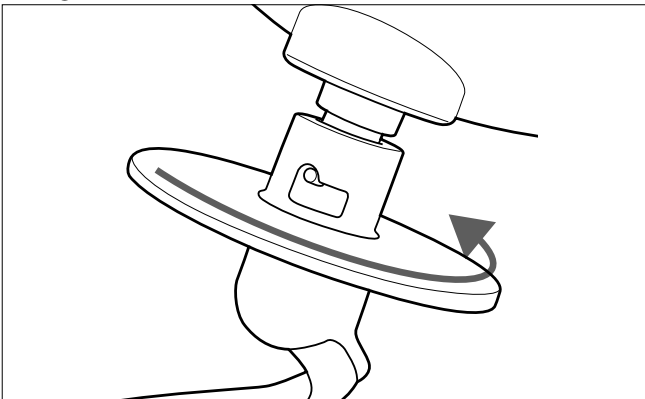

Fig. 7 – Securing stirrer
- ▶ Push the stirrer up and turn it clockwise until it engages. A stirrer can only be inserted and turned correctly if the guide nose is in the corresponding guide slot (see Fig. 7).